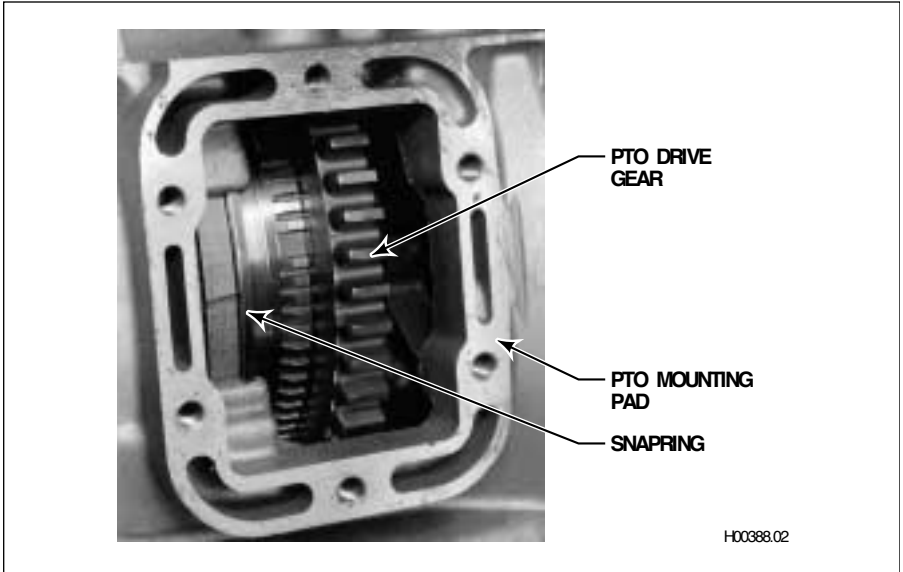

Figure 3-4. View at PTO Opening
- Install the PTO unit and gasket(s) flush to the mounting pad; do not force. Avoid bumping the snapping (Figure 3-4), which could be displaced. Secure the PTO with six mounting bolts; tighten to 26–32 lb ft (35–43 N·m).